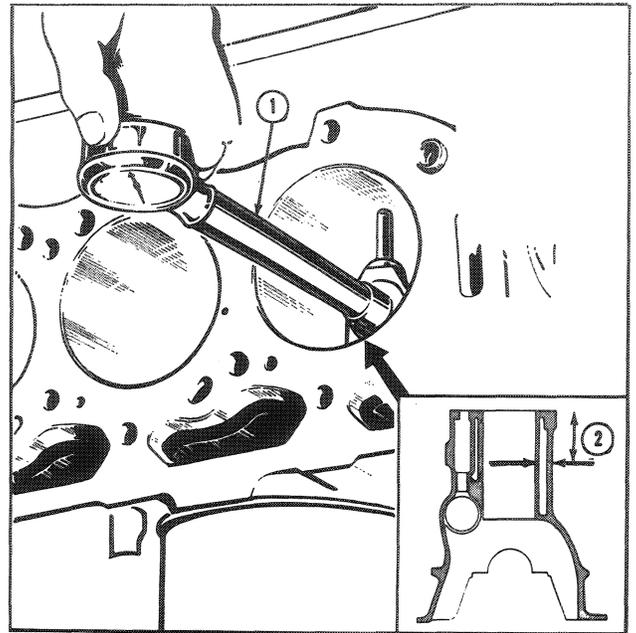

Figure 43
4. Using a bore gauge (or inside micrometer) check and record the cylinder bore diameter in a crosswise direction as shown in Figure 43.